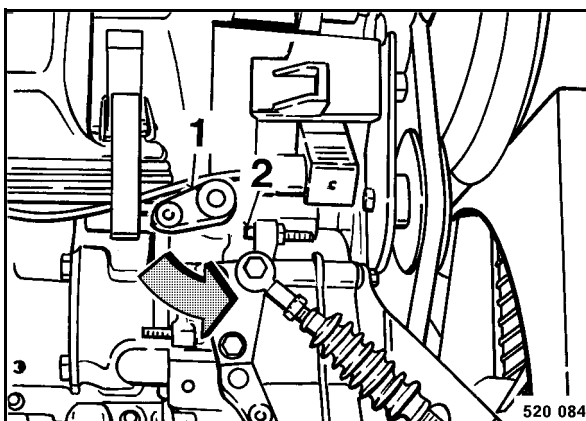

Fig. 80
- Press the engine shut-down lever 1 (Fig. 80) against the stop (2) and fasten it with a wire.